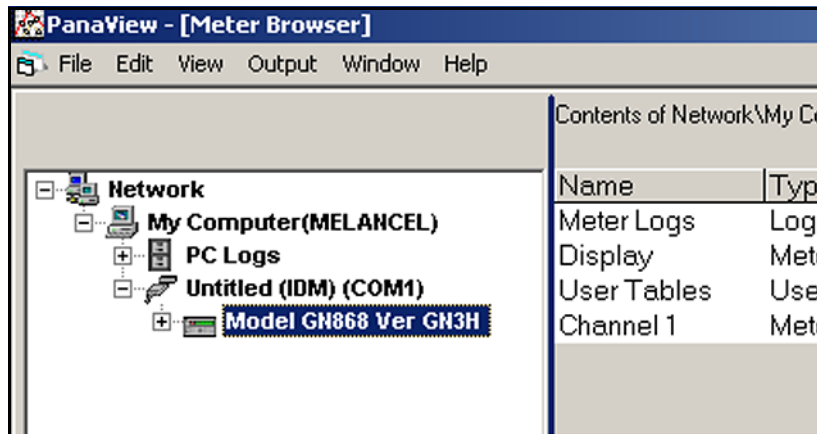

Figure 22: Updated Network Tree
If the initialization is successful, the *Meter Browser* shows a listing similar to *Figure 22* below.
1. Highlight the meter (as shown in *Figure 22 on page 107*).